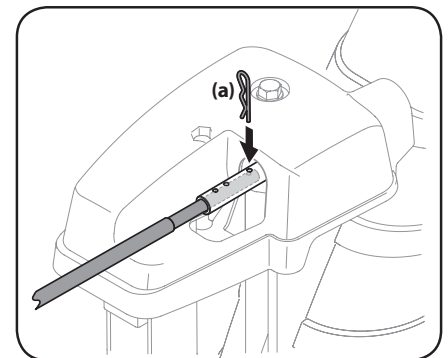

Figure 3-11
2. Push in chute control rod until the hole in it lines up with the third hole in chute rotation assembly. See Figure 3-11.
3. Reinsert cotter pin (a) through this hole and chute control rod as shown in Figure 3-11.